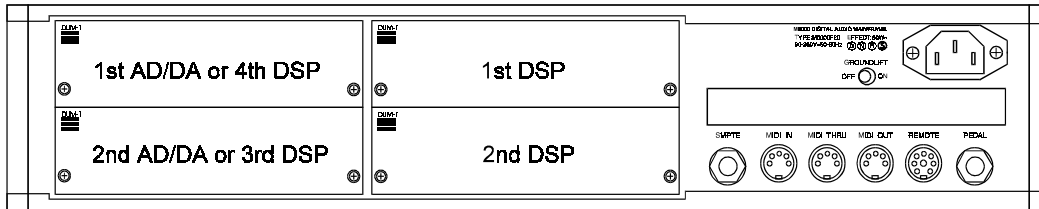

fig. 1
3. Insert the module after the diagram below (fig. 1).